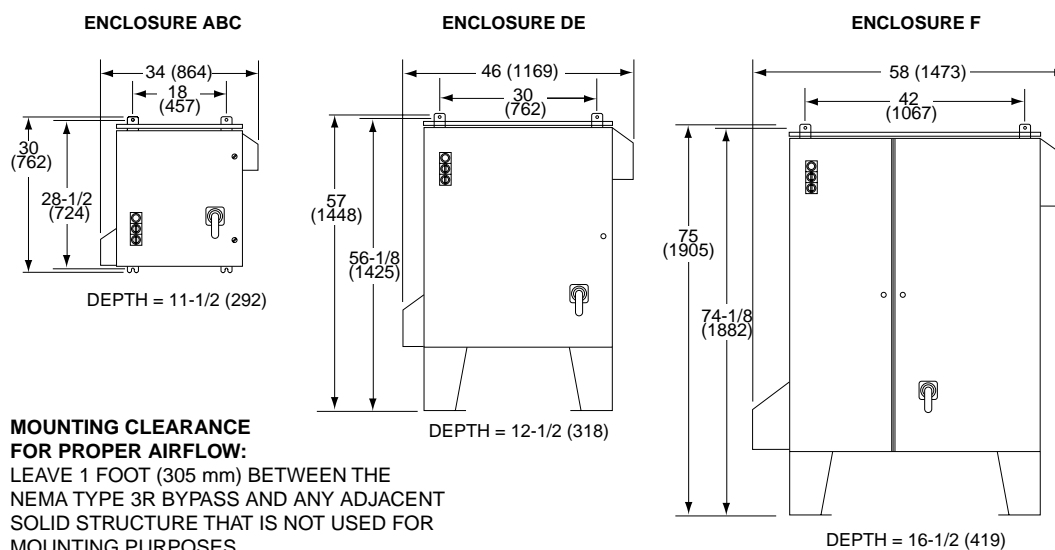

Figure 3. NEMA Type 3R Bypass Enclosure Dimensions in Inches (Millimeters).
Figure 3 shows NEMA Type 3R Bypass dimensions. Table 1 lists approximate weights.
- See Figure 3 for dimensions and see Table 1 for approximate weights.